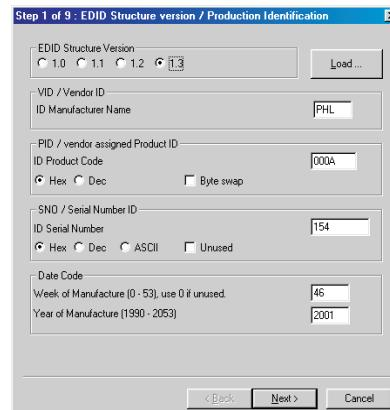

Fig. 14
1. Click  (new function) icon from the tool bar, bring up Step 1 of 9 as shown in Fig. 14.